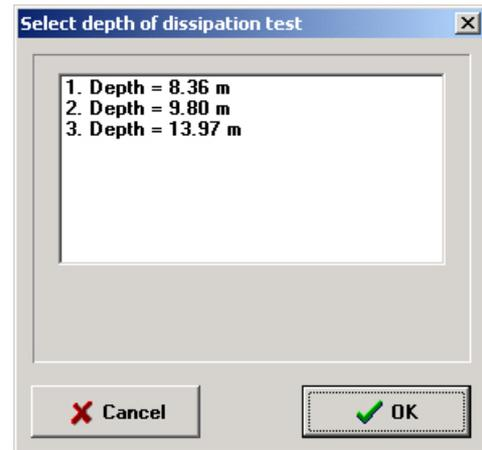
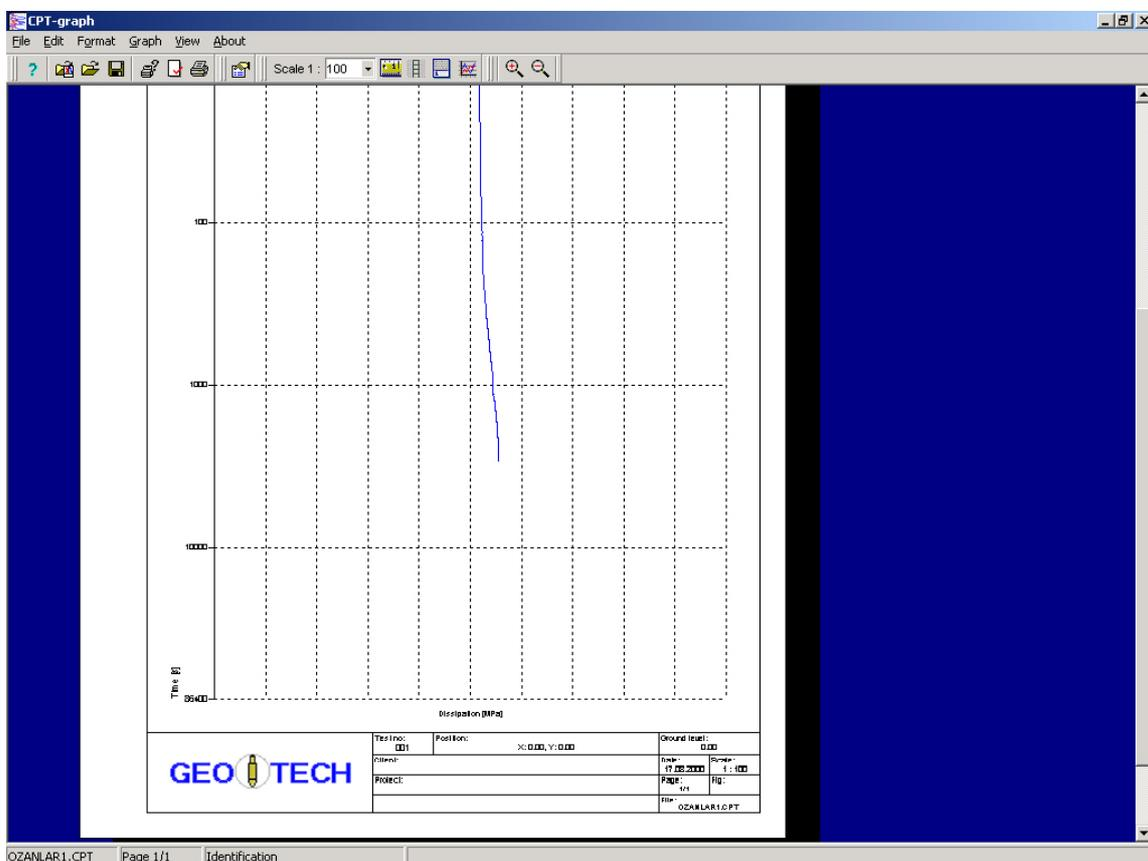

Fig 4-15: Selection of dissipation test to be displayed
Fig. 4-16: Dissipation Test Display
3. **Dissipation tests** are accessed under the Graph Menu (Fig. 4-15) and an example is shown in Fig. 4-16.